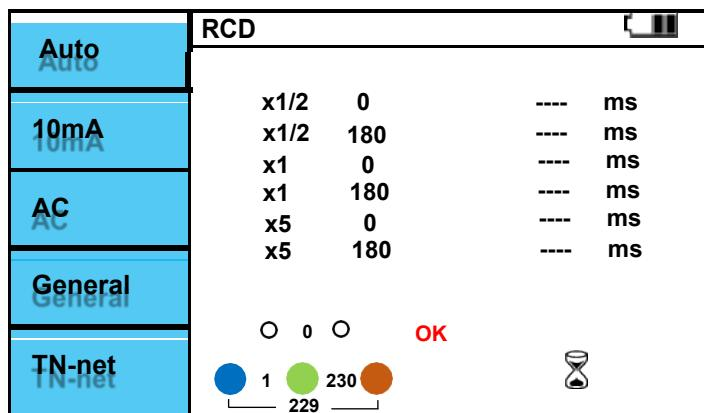

Figure 6.6.6 RCD / Auto screen.
- IV. If there is no problem with the test lead connection, “OK” is displayed as shown in Figure 6.6.6